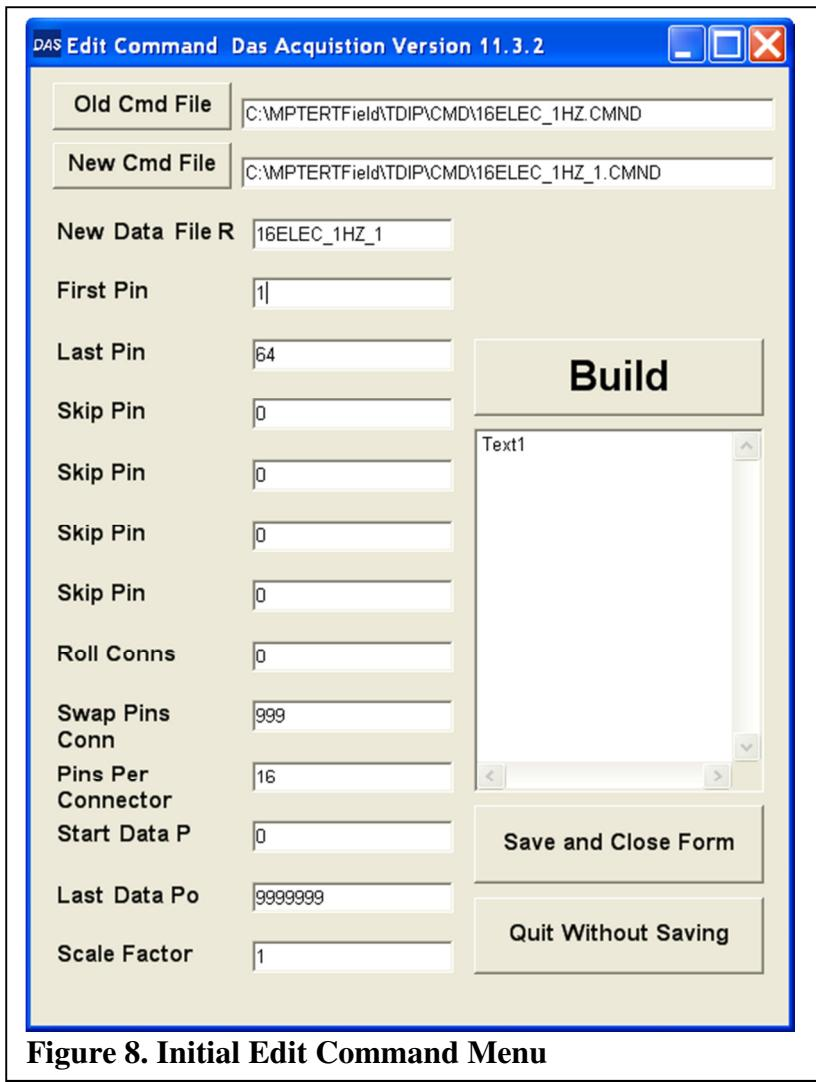

Figure 8. Initial Edit Command Menu
- 4) Change configuration parameters as desired by clicking on **Edit Command File**. A new window entitled **Edit Command** will open (Figure 8). Read Section 5.13 in the Das-1 User's Manual for more information on editing a command file.